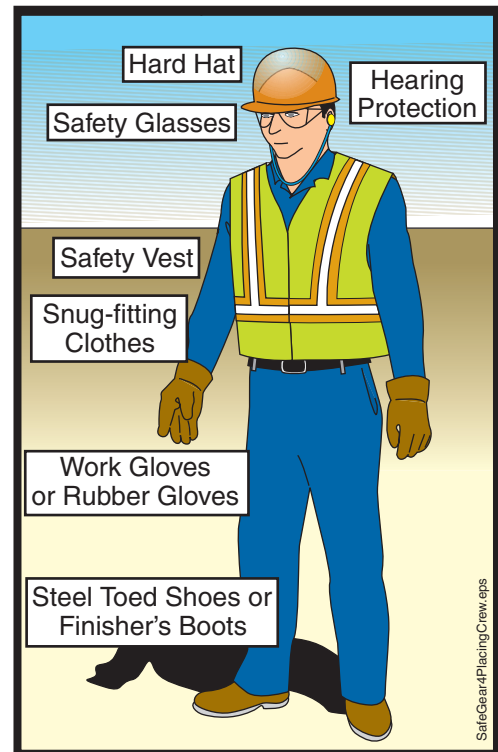

Figure 81
17.4 **⚠ WARNING** Wear Personal Protective Equipment (P.P.E.) when working around a concrete pump (Figure 81). The gloves should resist concrete lime burns. If you will be working **in** the concrete, protect your feet and hands with rubber boots and gloves.